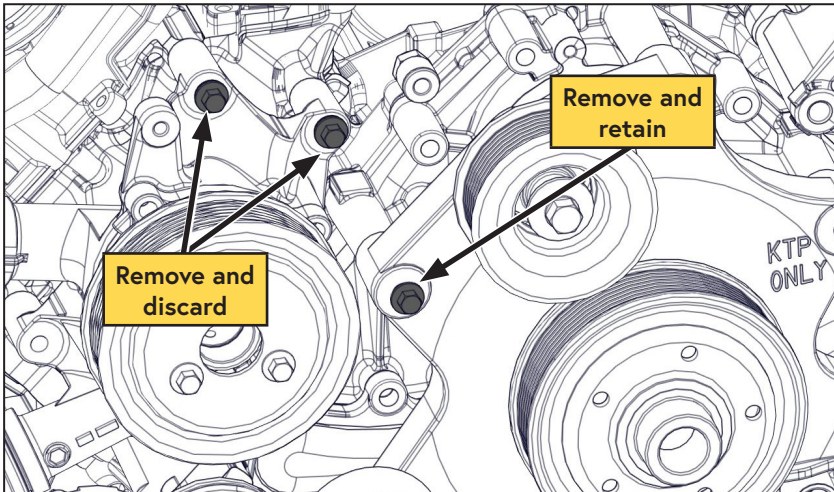

Figure 3 — Preparing for compressor installation
- Remove and discard the (x2) indicated water pump fasteners (Figure 3).
- Remove and retain the indicated fastener (Figure 3).